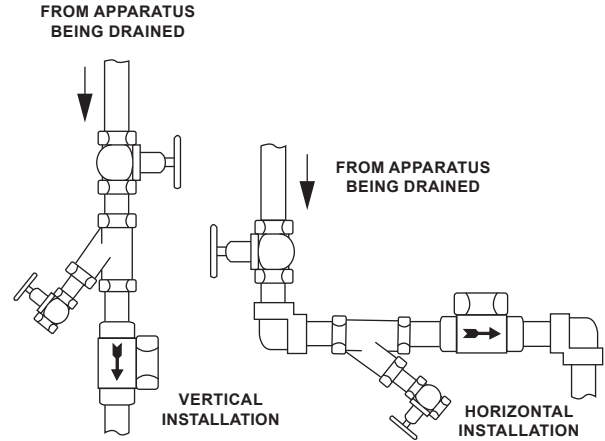

Figure 1. NTD600 Series Steam Traps Installation
2. Install trap with arrow on body in flow line as close as possible to apparatus with strainer and valve upstream of trap as shown in Figure 1.
Piping upstream and downstream of trap should be at least equal to or one size larger than trap connection. Trap installation as shown in Figure 1 is freeze-proof.